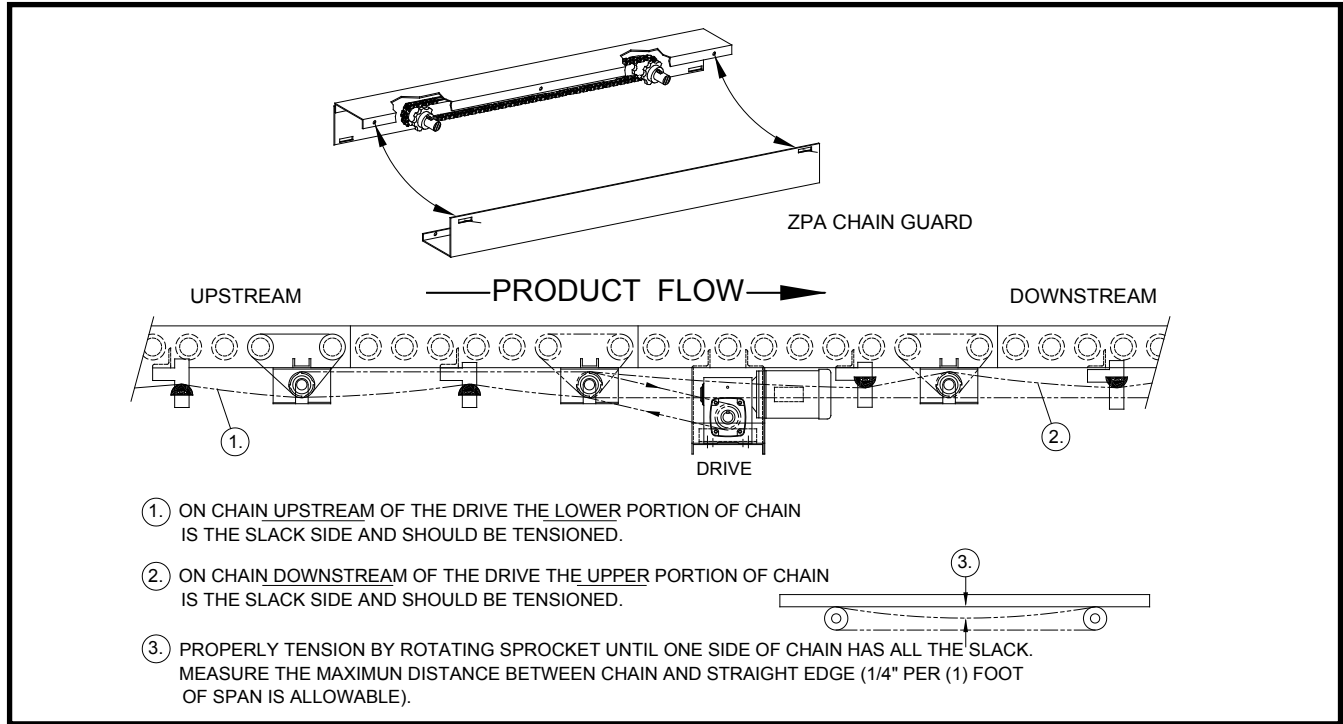

FIGURE 4
5. Remove the zone guard and reassemble the zone chains, which were disconnected for shipping (They will have been packaged to the section that they were disconnected from). Use the information in FIGURE 4 shown below to adjust the chain tension blocks. **DO NOT OVERTIGHTEN.** This will cause premature wear of all drive components and require additional horsepower to operate the conveyor.